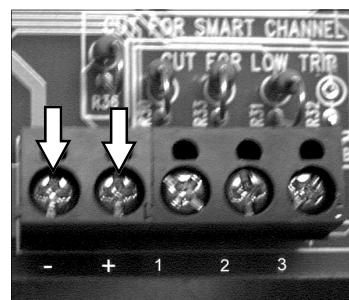

Fig. 2. Apply Power: NEG (-) and POS (+)
- Connect power to (-) & (+) screw terminals (see Fig. 2).